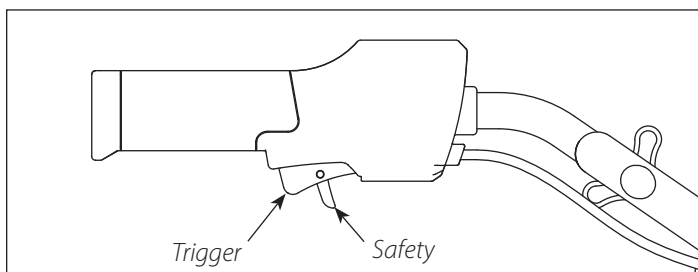

Figure 5
2. Depress the safety built into the trigger, then squeeze the trigger. Following a 1/2 second safety delay, the cultivator will then start. This model features a variable speed trigger. Speed can be adjusted by the amount of pressure applied to the switch by the operator. **SEE FIGURE 5**